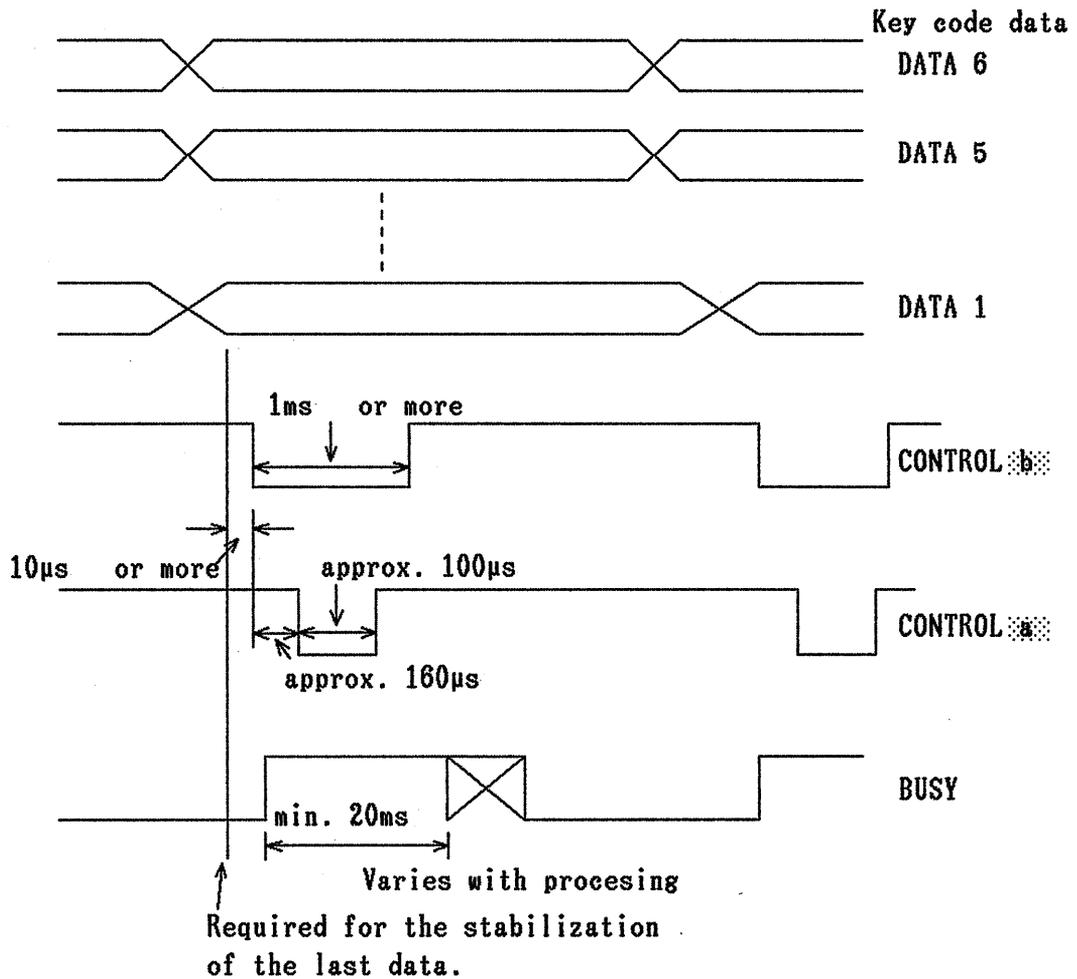

Figure 5-2
Then, set CONTROL b to "0" for 1ms or longer as shown in Figure 5-2.
- 2) Send CONTROL  which is set to "0" for 1 ms or longer as shown in Figure 5-2 (input data timing).